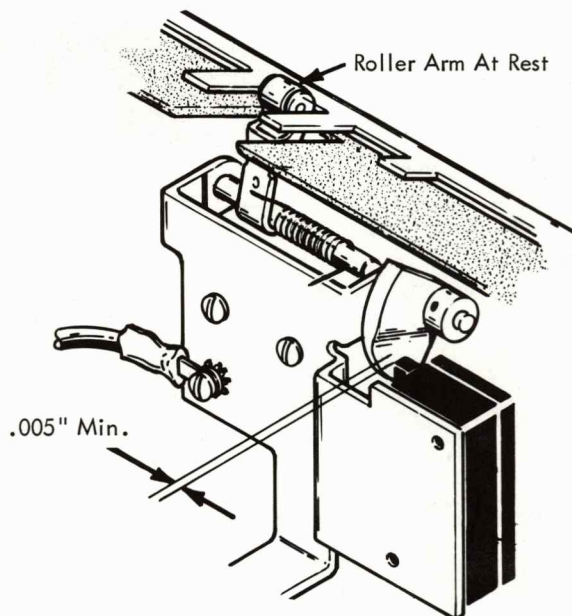

FIGURE 211. End of Forms Contact
- b. With roller arm at rest a .005" minimum clearance shall be provided between switch actuator and actuator cam (Fig. 211).